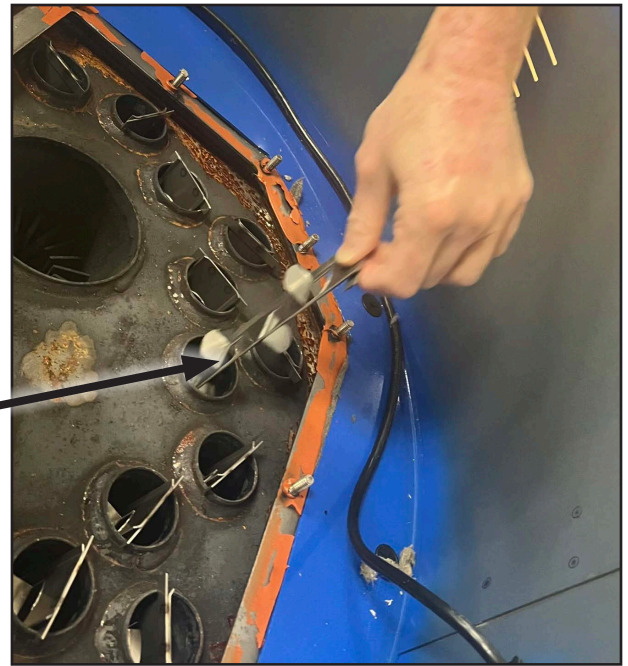

Fig. 58
1. Lift and remove the baffles, inspecting and cleaning as needed (Fig. 58).